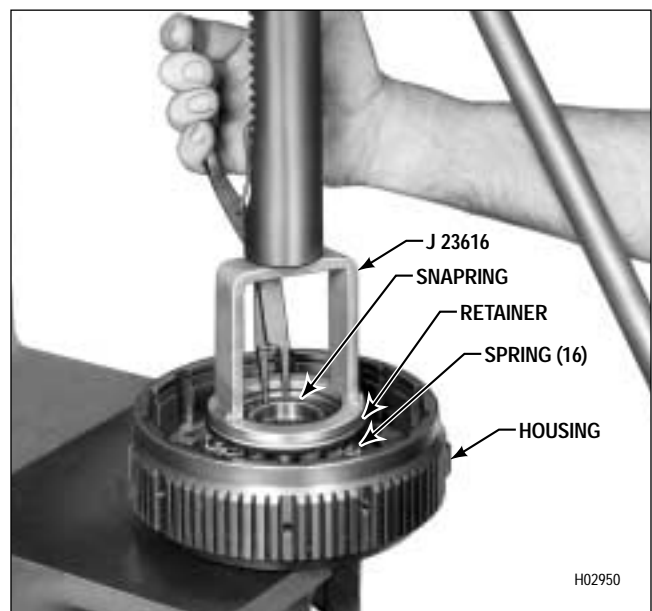

Figure 6-43. Removing (or Installing) Fourth Clutch Spring Retainer Snapping
(1) Place the fourth clutch on the work table, with snapping 1 upward. Remove snapping 1, back-plate 2, five internal-splined clutch plates 3, and five external-tanged clutch plates 4.
(2) Place fourth clutch housing assembly 11 in a press (Figure 6-43).